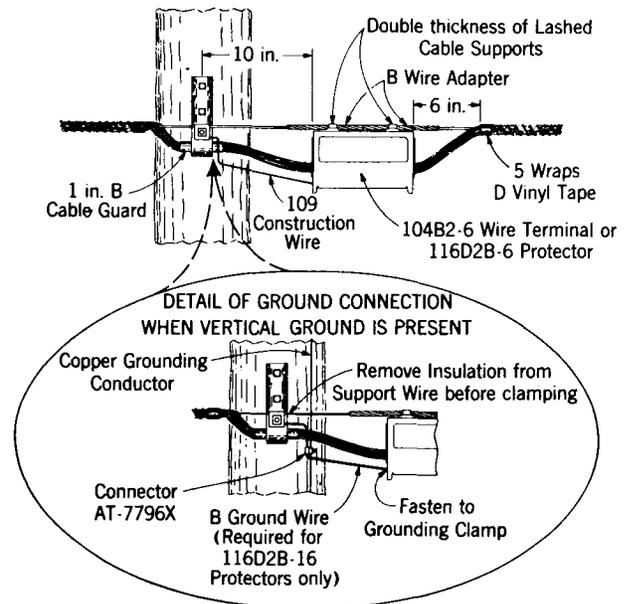

Fig. 8 — At Multiple Line Wire
3.02 A 104B2-6 Wire Terminal or 116D2B-6 Protector can be located at a multiple line wire intermediate pole using two B Wire Adapters and two lashed cable supports as shown in Fig. 8 and described in 3.03.